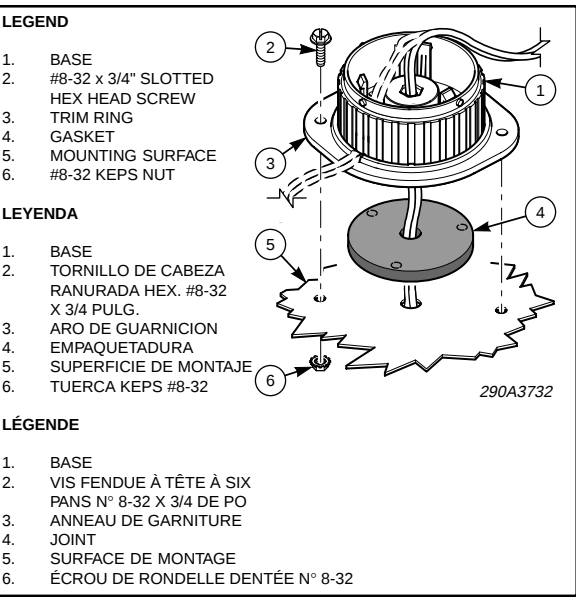

Figure 2. /Figura 2. /Figure 2.
- Optional Trim Ring Mount (see figure 2).
- Using the base/trim ring assembly as a template, scribe mounting hole locations on the mounting surface. If desired, scribe a center wire routing hole location on the mounting surface (see figure 2).
- See figure 2. Route the circuit board assembly wires through the base center hole and into the wire routing hole, or route the circuit board assembly wires through the 1/4" diameter base hole and exit through the notch in the base.